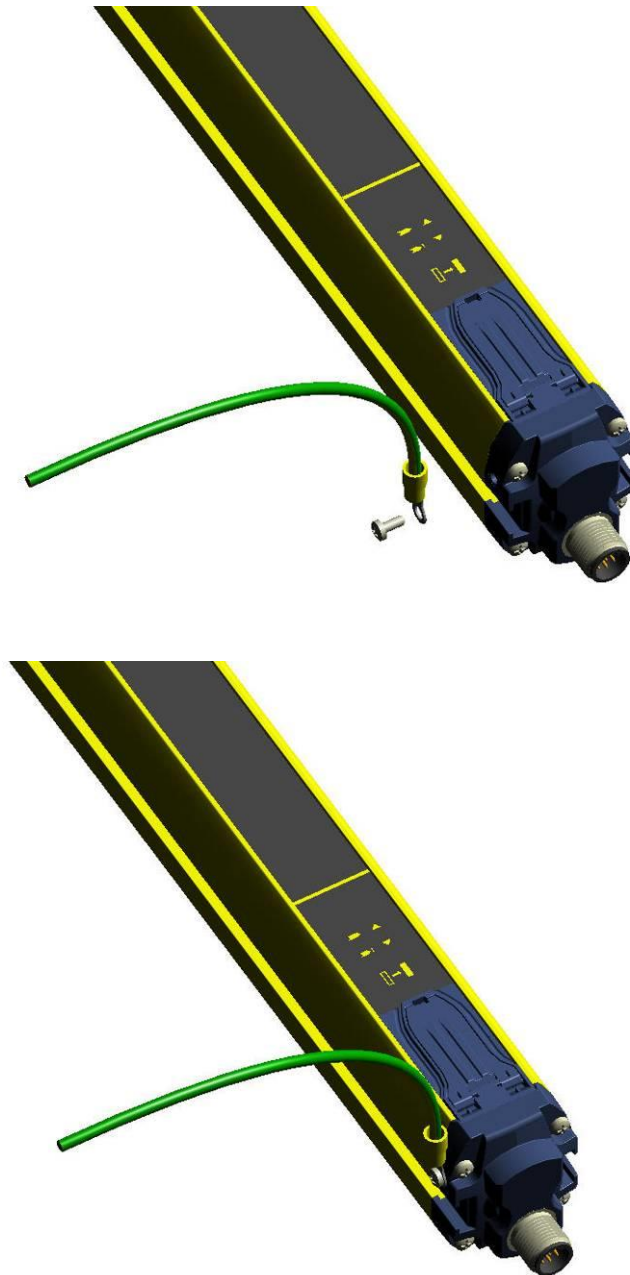

Fig. 13
- The ground connection of the two units depends on the electrical protection class to be guaranteed (see section 9 “Technical Data” for more information). This connection can be carried-out using the screw supplied, which can be put into the proper threaded hole on the cap (see Fig. 13).